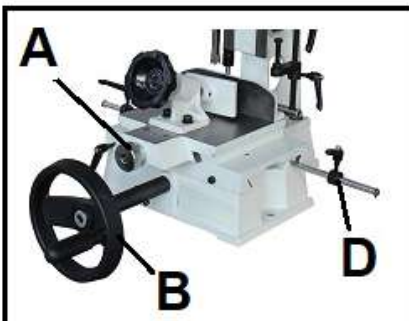

FIG. 17
The top Table (#42) that holds your work piece, adjusts forward and backwards on dovetail ways, FIG. 17, A. The table movement is controlled by the small knurled Knob (#38) (B).
1. To tighten or loosen the movement of the table, pressure on the dovetails can be adjusted with the 2 Screws and Nuts (# 54, 53). FIG. 17, C. These put pressure on the Drift Plate (#55) which rests against the table's dovetails.
2. To secure the table in one spot so that it will not move, the hex head Screw (#64) (D) can be fastened down. This is recommended for repetitive drilling of mortises on multiple work pieces.